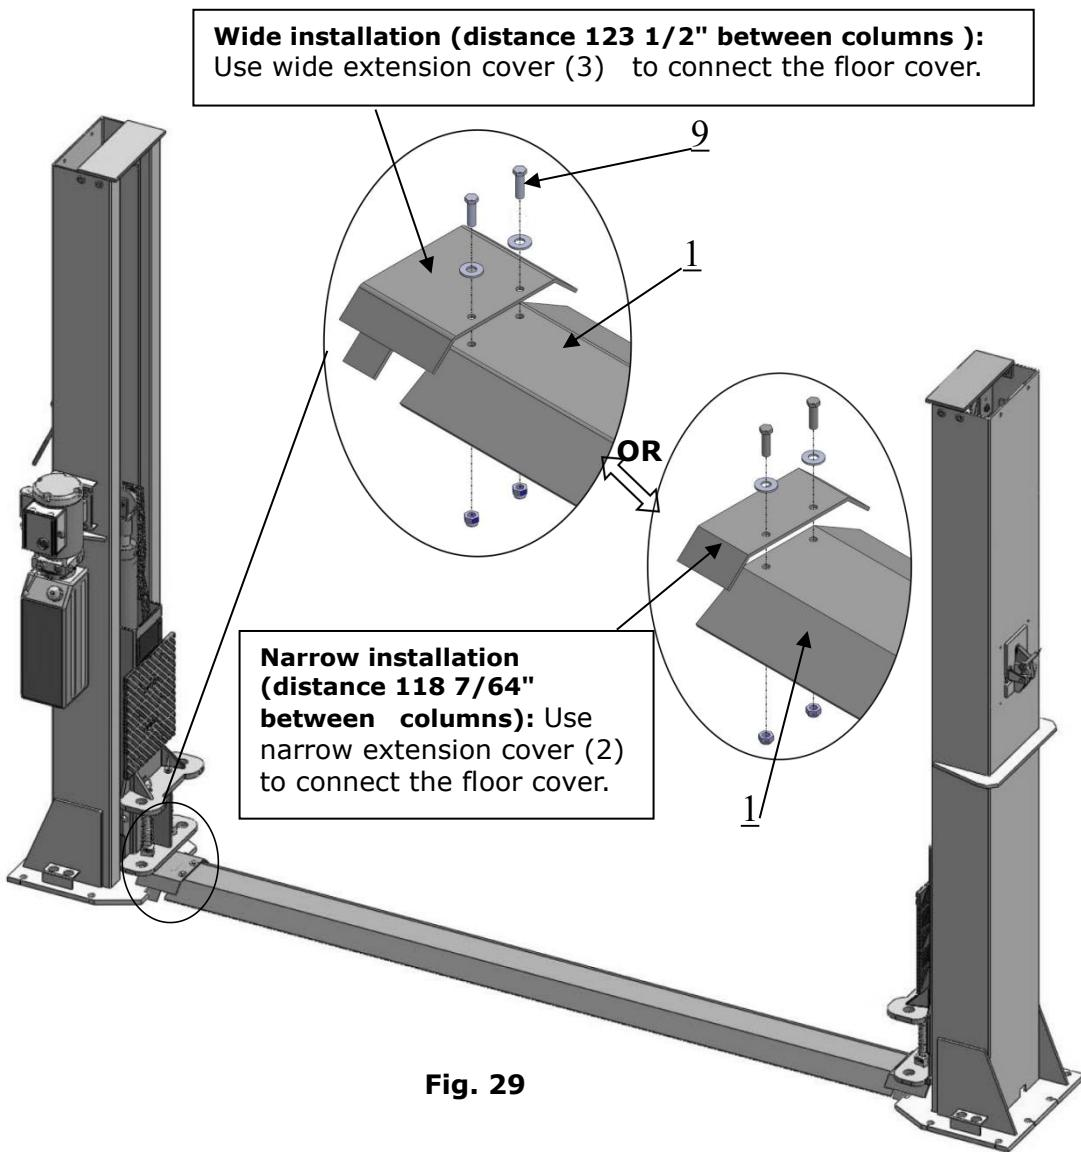

Fig. 29
L. Install floor cover (See Fig. 29).